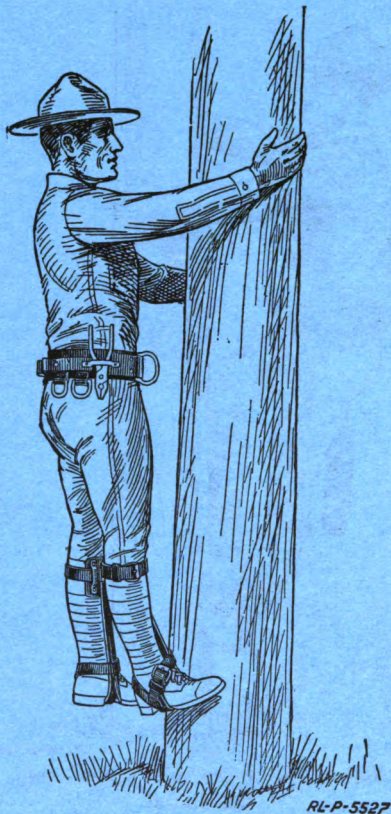

Fig. 4.—Climbing pole, second step
*b.* Lift the body by straightening the right leg and placing the weight on the spur which is engaged in the pole, let the left leg hang free and keep the body away from the pole. (See Fig. 4.)